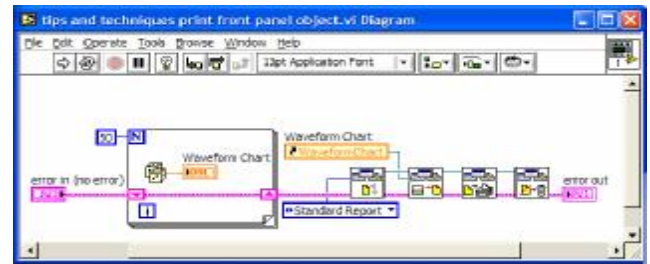

Figure 1.1 Completed Block Diagram of VI.
7. Move the newly created reference outside the for loop and wire it into 'Ctrl Reference' on the 'Append Control Image to Report.vi' The completed block diagram is listed in figure 1.1.